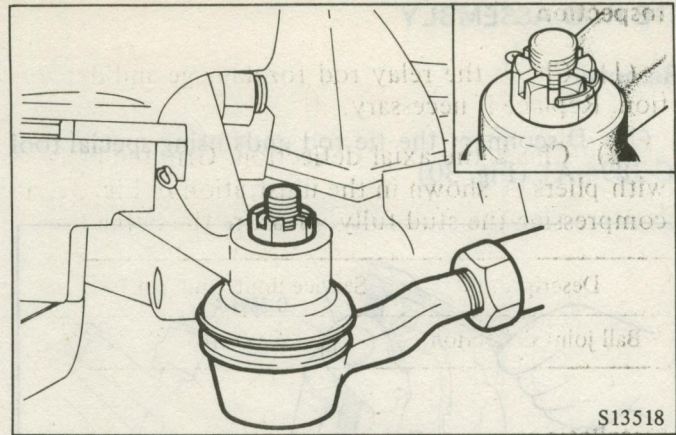

Fig. 34 Installing the Tie Rod Assembly
(3) When connecting the tie rod assembly to the knuckle arm, tighten to the specified torque, install a cotter pin, and open the cotter pin exactly as shown in Fig. 34. Subsequently make the toe-in adjustment and tighten the lock nut to the specified torque. (Refer to GROUP 2.)